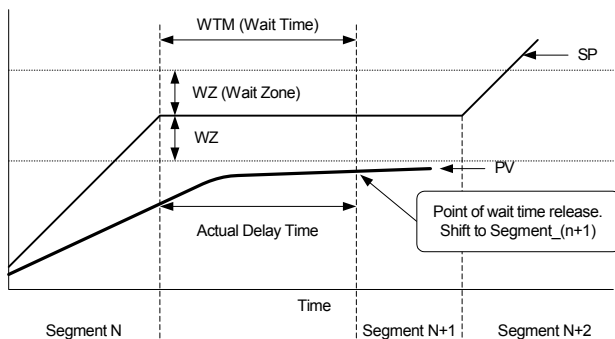

Fig 6: Wait Function Wait Time Release
<p>This is the wait time parameter for the wait function, which sets the time the program will wait for the PV to enter the wait zone before starting the next program segment. The setting range is OFF (0) to 99.99 (time units set by TMU). When OFF, the wait function will not be enabled. See Fig 6 for more information.</p>